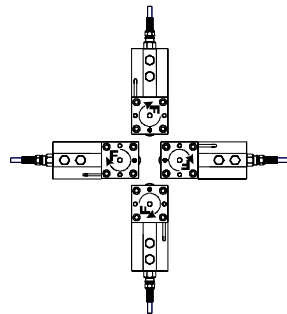

FIG. 19: LOAD POINT ORIENTATION
- Step 12. Slide the load point assembly/base plate onto the anchor bolts. You can install the load point assemblies in one of four orientations. (See Fig. 19) Notice we used the Free Sliding Load Point Assembly for this illustration but you can do the same with any of the load point assembly types.